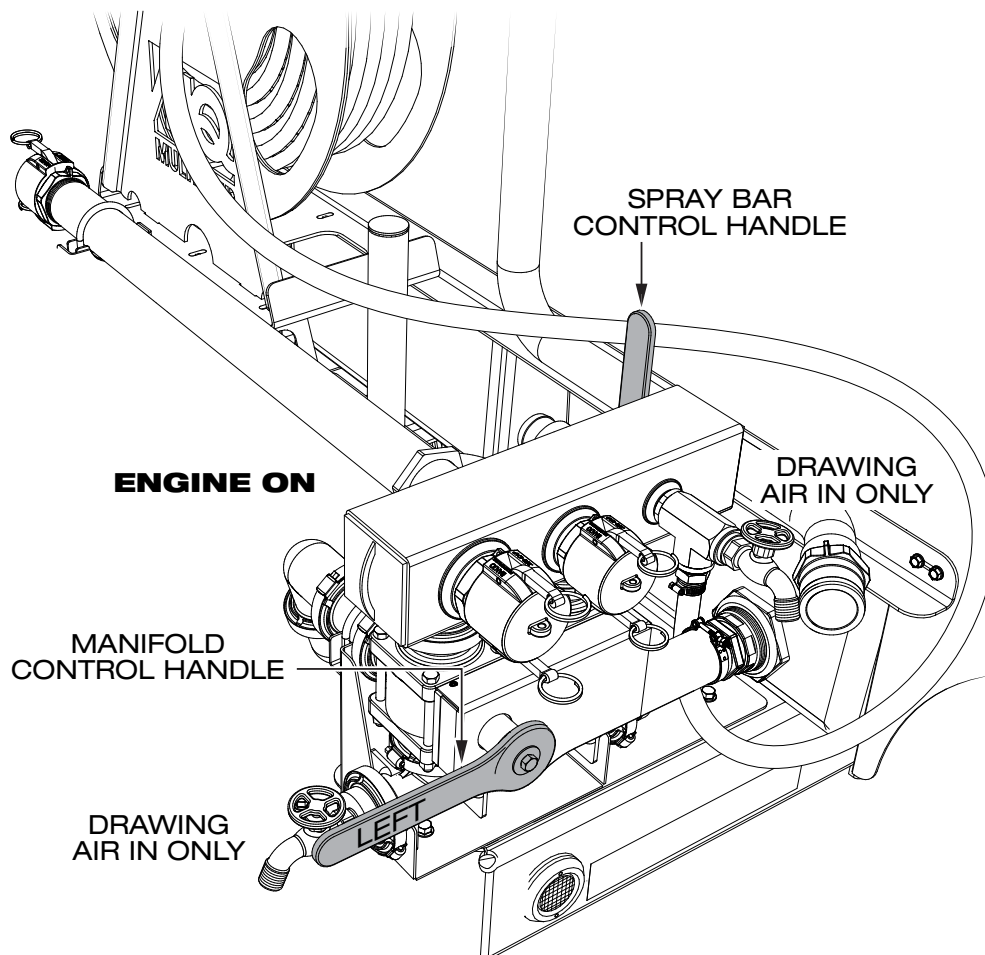

Figure 19. Do Not Use Mode (Engine On)
There is an operating mode (Figure 19) that could be harmful to your water pump. Never operate the water trailer with the spray bar control handle in the vertical position (rear spray on), and the manifold control handle in the horizontal position (suction/left) with the engine running.
**NEVER** operate the water trailer with the spray bar and manifold control handles as shown in Figure 19.